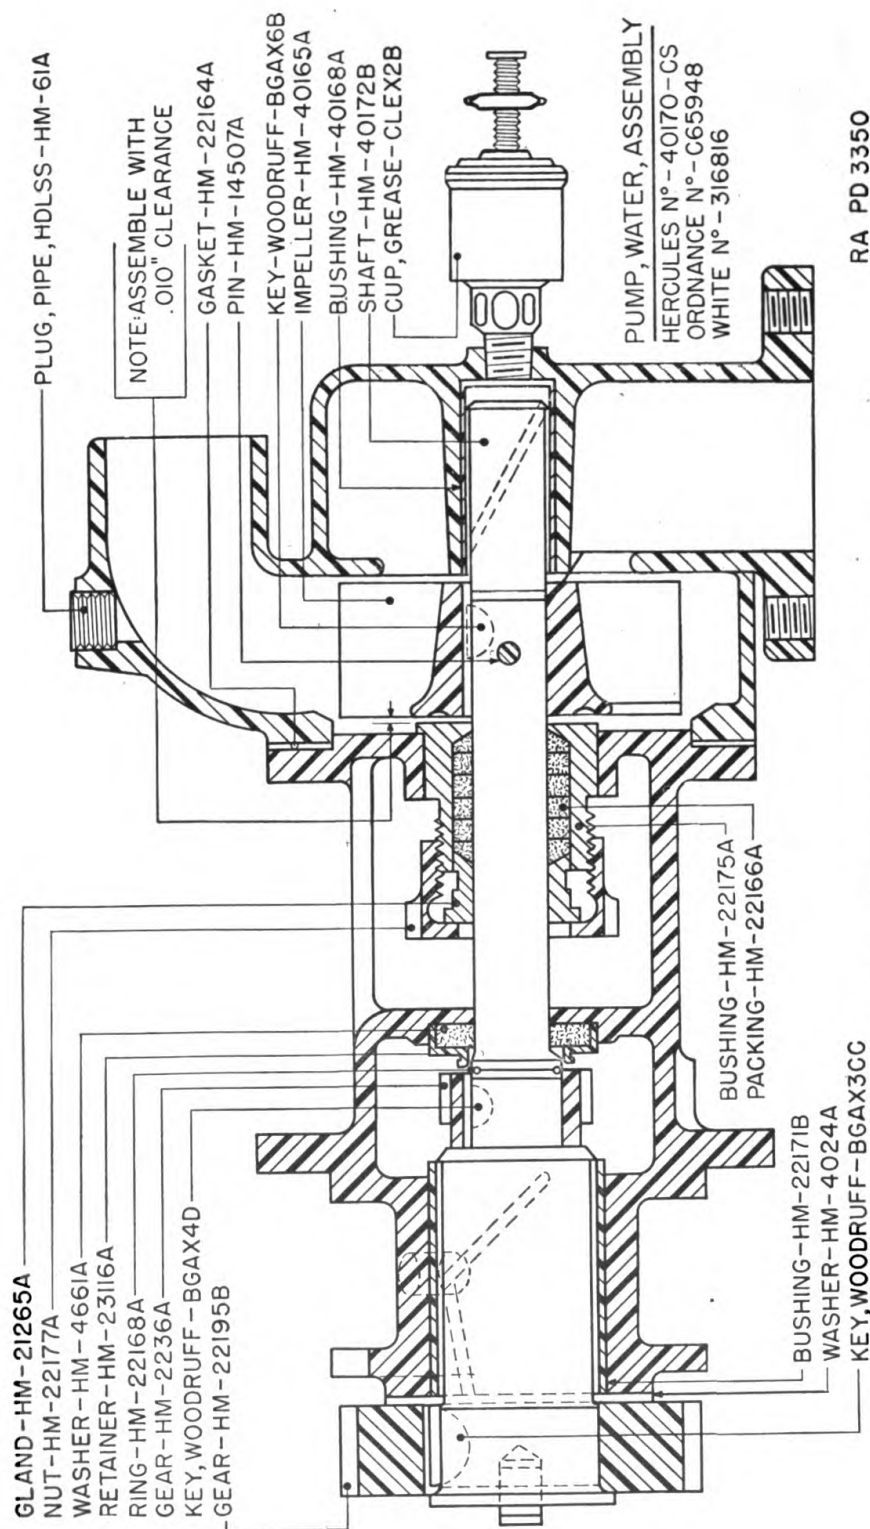

FIGURE 24.—Water pump assembly, sectionalized.
(1) *Construction* (fig. 24).—The water pump shaft is supported on two bushings, a large diameter bushing in the pump cover casting, just